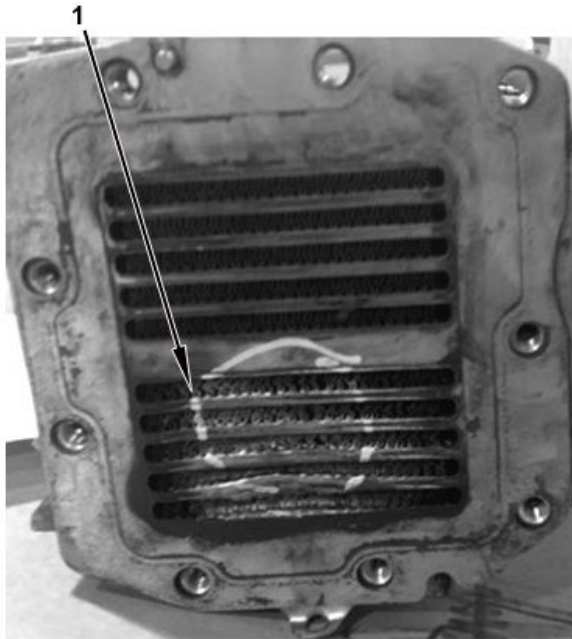

Figure 20. High-Temp (HT) EGR Cooler Inlet.
24. Inspect High-Temp (HT) EGR cooler inlet for damage (Figure 20, Item 1). If HT EGR cooler is damaged, replace HT cooler per HT EGR Cooler Replacement procedure in the MaxxForce® 11 and MaxxForce® 13 EGR Cooler Resource Center.